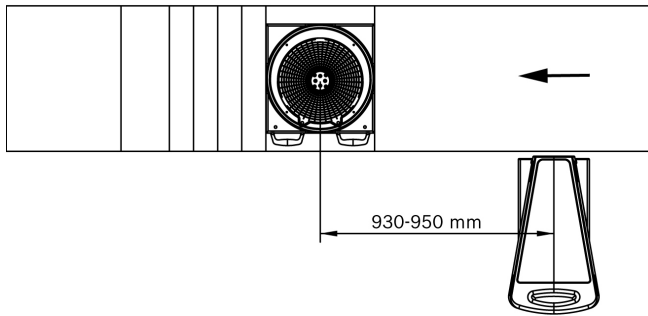

Fig. 3: Distance between turntable and sensor
1. Determine the sensor position with the shortest distance from the turntable (Fig. 3).